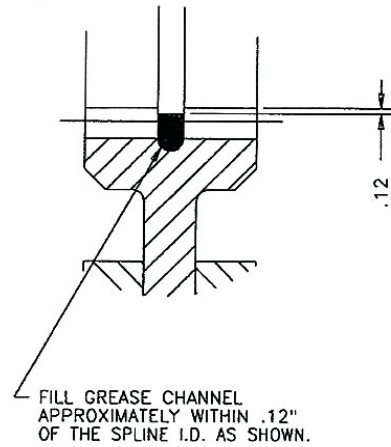

Figure 1
- 1.10 Prior to installation, pre-fill spline gear teeth and center channel of disc core with MOLUB-ALLOY® 936SF grease, as illustrated in **Figure 1**.